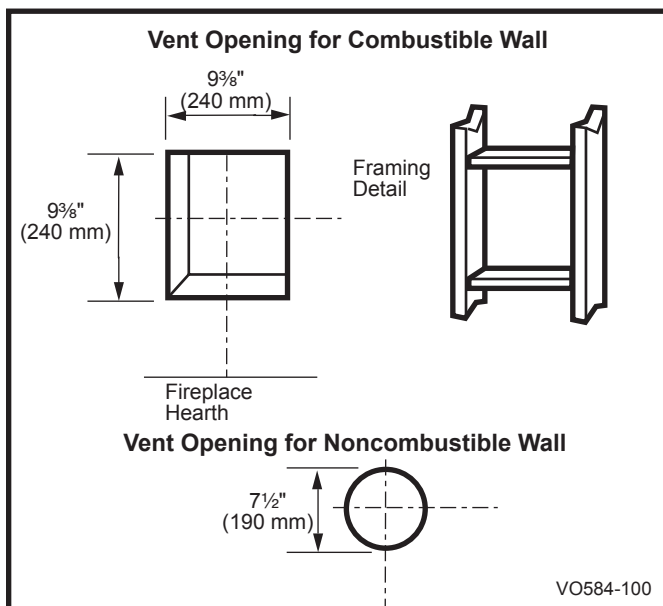

Fig. 22 Locate vent opening on wall.
Locate vent opening on the wall. It may be necessary to first position the fireplace and measure to obtain hole location. Depending on whether the wall is combustible or noncombustible, cut opening to size. (Fig. 22)
Combustible Walls (Fig. 22): Cut a 9 $\frac{3}{8}$ " x 9 $\frac{3}{8}$ " (240 x 240 mm) hole through the exterior wall and frame.
Noncombustible Walls (Fig. 22): Hole opening must be 7 $\frac{1}{2}$ " (190 mm) in diameter.
1. Establish vent hole through the wall. (Fig. 22)